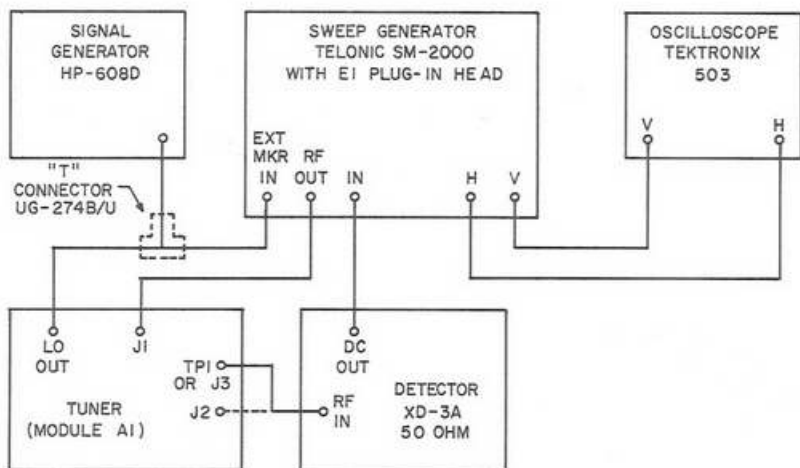

Figure 5-5. 250-500 Mc RF Tuner Test Set-Up.
- (1) 250 to 500 Mc Tuning Head, SH-203A-7, Alignment
- Connect test equipment as shown in Figure 5-5.
- Adjust the vertical sensitivity of the oscilloscope to 1.0 mv/cm. Adjust horizontal sensitivity as required for full scale deflection. Connect the detector to TP1 as illustrated in Figure 5-5.
- l. The marker should remain centered on the response waveform over the tuning range and the response waveform shape should remain essentially as illustrated in Figure 5-5. Slight readjustment of the capacitors in step j. may be necessary to obtain a suitable response over the tuning range.